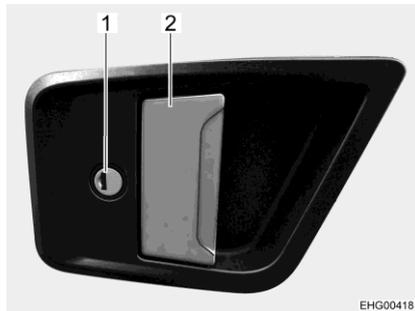
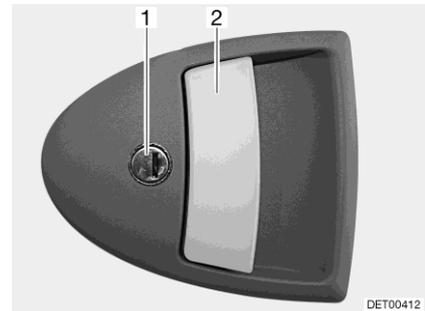

Fig. 51 Door lock (conversion door, outside)
Fig. 52 Door lock, variant (conversion door, outside)
- Insert the key into locking cylinder (Fig. 51,1 or Fig. 52,1) and turn until the door lock is unlatched.
- Pull on the door handle (Fig. 51,2 or Fig. 52,2). The door is open.
- Insert the key into locking cylinder (Fig. 51,1 or Fig. 52,1) and turn until the door lock is engaged.